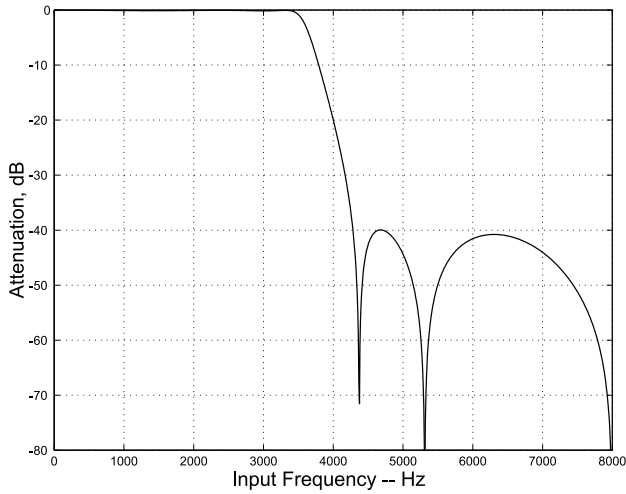
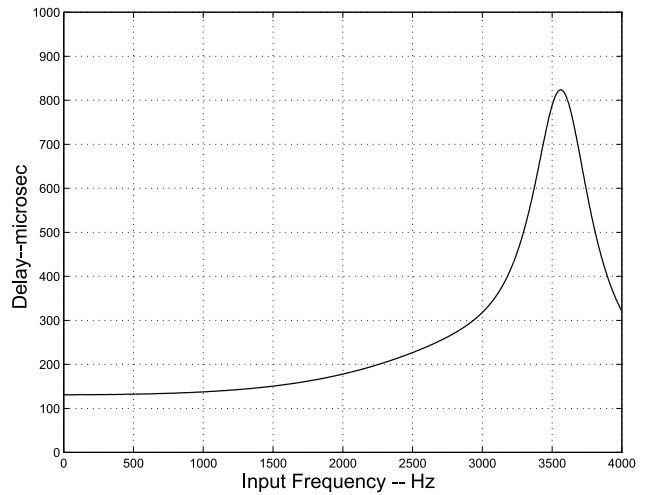

Figure 11. IIR Receive Filter Response
Figure 15. IIR Receive Group Delay
**Note:** Typical IIR filter characteristics for  $F_s = 8000$  Hz are shown in Figures 11, 12, 13, and 14. Figures 15 and 16 show group delay versus input frequency.
For Figures 11–14, all filter plots apply to a sample rate of  $F_s = 8$  kHz.